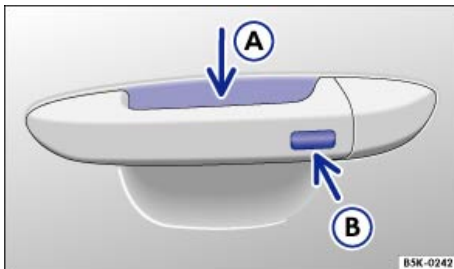

Fig. 26 Keyless Access system: Sensor for unlocking A on the inside of the front door handles. Sensor for locking B on the outside of the front door handles.
All you have to do is touch a sensor surface on one of the front outside door handles ⇒ fig. 26 or push the Volkswagen emblem on the rear hatch ⇒ *Opening the rear hatch* when a valid remote control vehicle key is within range ⇒
- Keyless Entry: Unlocking the vehicle with the sensor surfaces on the outside door handles of the driver or front passenger door ⇒ fig. 26 \(A\) or by using the Volkswagen emblem on the rear hatch.
To use the convenience closing feature to close all power windows and the sunroof, hold your finger on the lock sensor surface on the outside of the door handle ⇒ fig. 26 \(B\) for a few seconds until the windows and sunroof close.